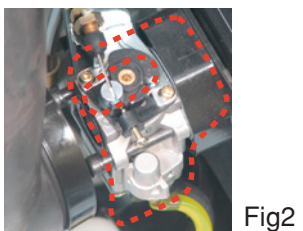

Fig2
3. Turn idle adjust screw (D) clockwise until its head touches boss (G) as shown Fig 1. Then turn idle adjust screw (D) anticlockwise 8 turns from the point as shown Fig 2.
**NOTE :** Initial carburettor setting (Idle adjust screw, idle and hi speed (H) mixture needles) shown here is to start the engine after restoration or carburettor change. Idle adjust screw, idle and H mixture needles turn for designated engine revolution through procedures indicated here may vary. As long as idle and WOT engine speed is set in given range, the variance would be ignorable.